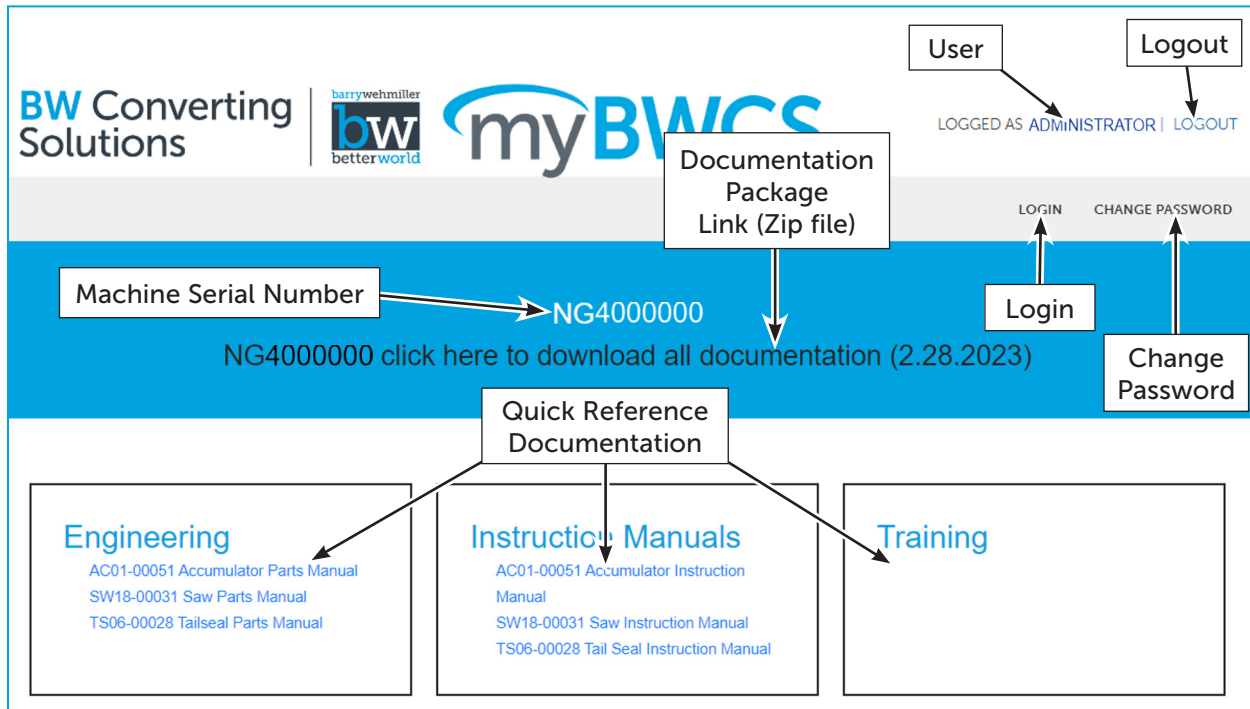

Figure 4: Machine Documentation Page
5. Click on the machine serial number to open the Machine Documentation Page (Figure 4). This page contains links to the documentation available for the machine. The most commonly used documents are organized by category in three separate columns. (If training was purchased, the Training category will include the purchased training materials.)